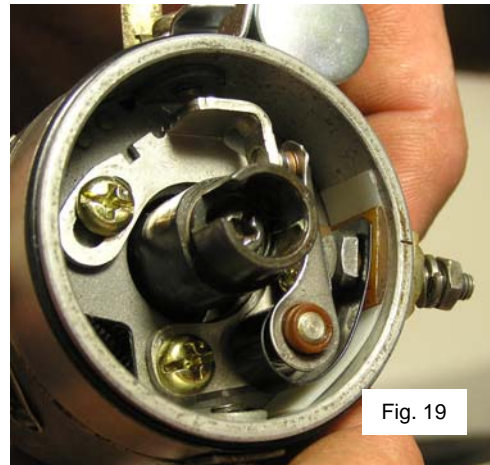

Fig. 19
28. Installed points assembly (Fig. 19).
Insulator must insulate spring on points from housing (see location of white insulator made from milk jug in Fig 19).